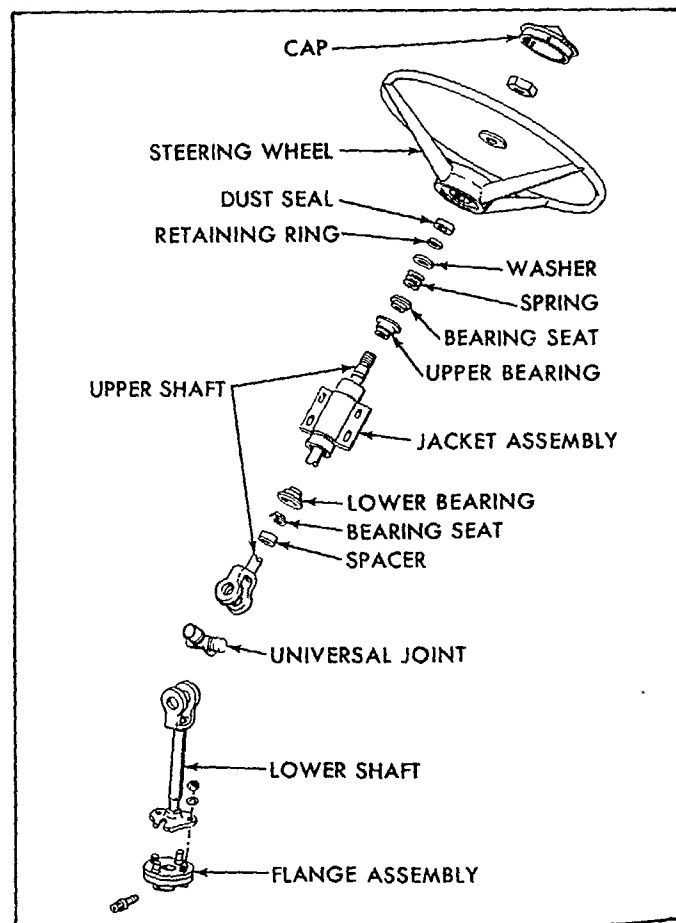

Figure 86
1. Remove the steering column upper bearing retaining ring, Figure 86, retainer washer, bearing spring, bearing seat, and jacket upper bearing assembly.
1. If the universal joint was removed, start a new bearing from the kit into the yoke of the lower shaft, Figure 86.